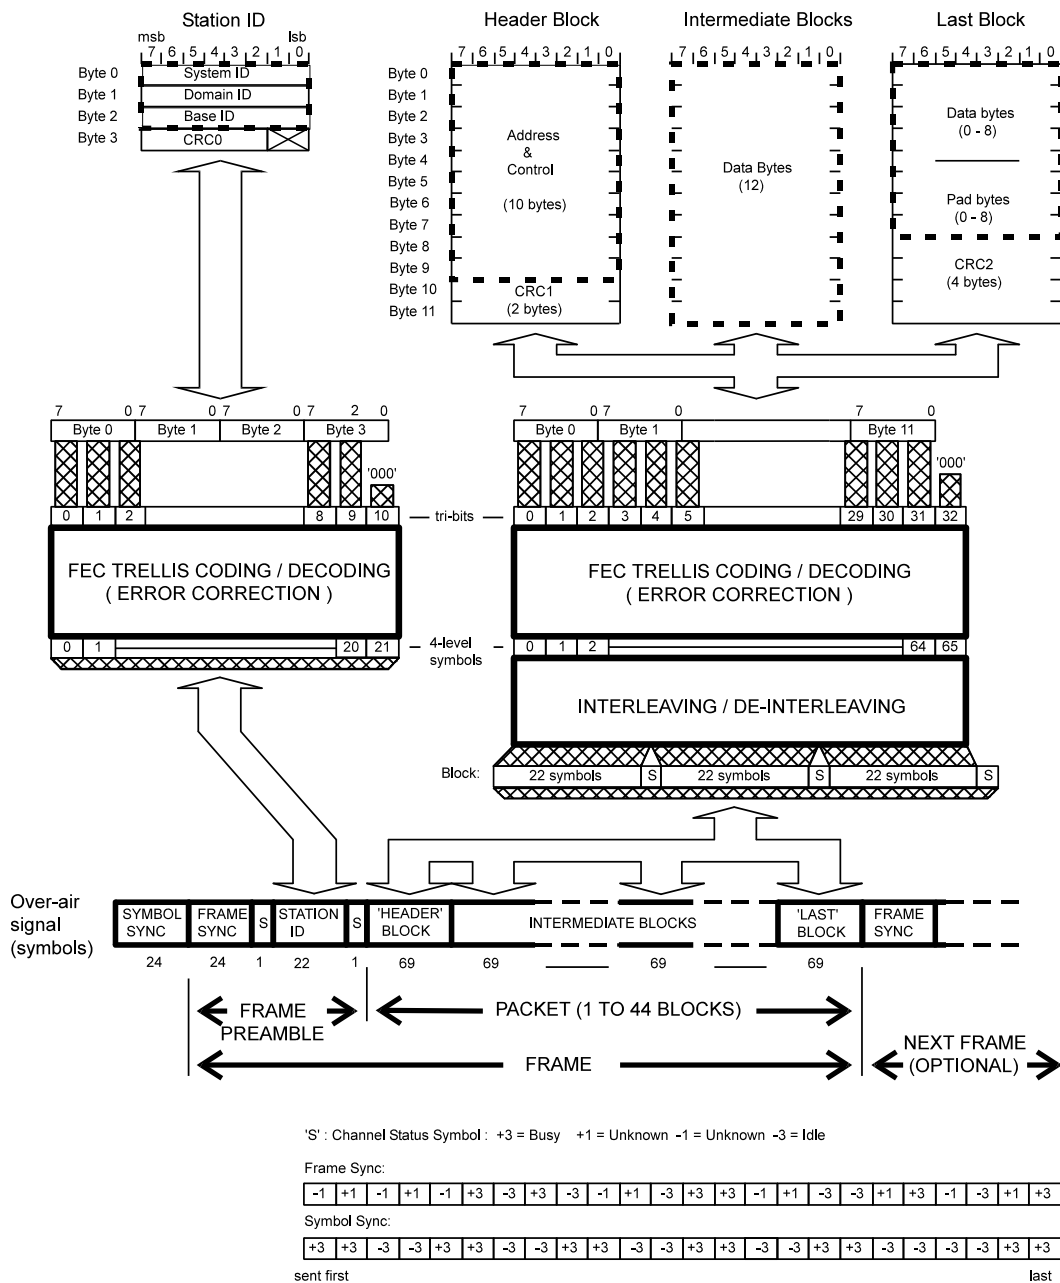

Figure 60 RD-LAP Over Air Signal Format
The frame structure in RD-LAP mode is illustrated in Figure 60 RD-LAP Over Air Signal Format, and typically consists of a Frame Preamble (comprising a 24-symbol Frame Synchronisation pattern and Station ID block) followed by one or more 'Header' blocks, one or more 'Intermediate' blocks and a 'Last' block. Channel Status (S) symbols are included at regular intervals. The first frame of any transmission is preceded by a Symbol Synchronisation pattern.
The CMX7164 performs all of the block formatting and de-formatting, the binary data transferred between the modem and its μ C being that enclosed by the thick dashed rectangles near the top of Figure 60. When
In Figure 60, except for the Station ID block, the size of data block illustrated is always 12 bytes when user bytes and CRC bytes are counted together. The channel status symbols must be packed in a byte and provided along with the payload data as shown in Table 16 and Table 17.